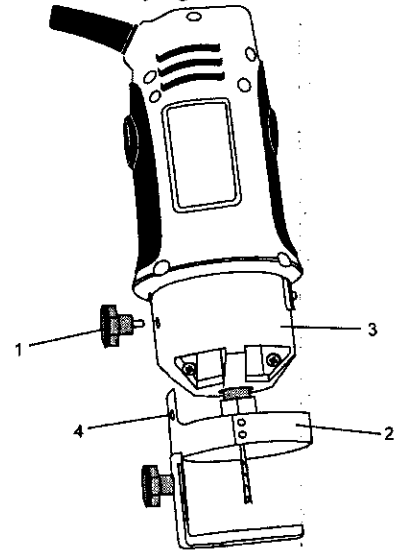

Fig. 4
1. Remove accessory locking knob (1) from the base of the cutting tool motor housing (see Fig. 4). Slide freehand sole plate mounting bracket (2) onto the bottom of motor housing (3) until the mounting hole (4) lines up with the hole in the motor housing.
2. Install freehand sole plate as shown in Fig. 4.